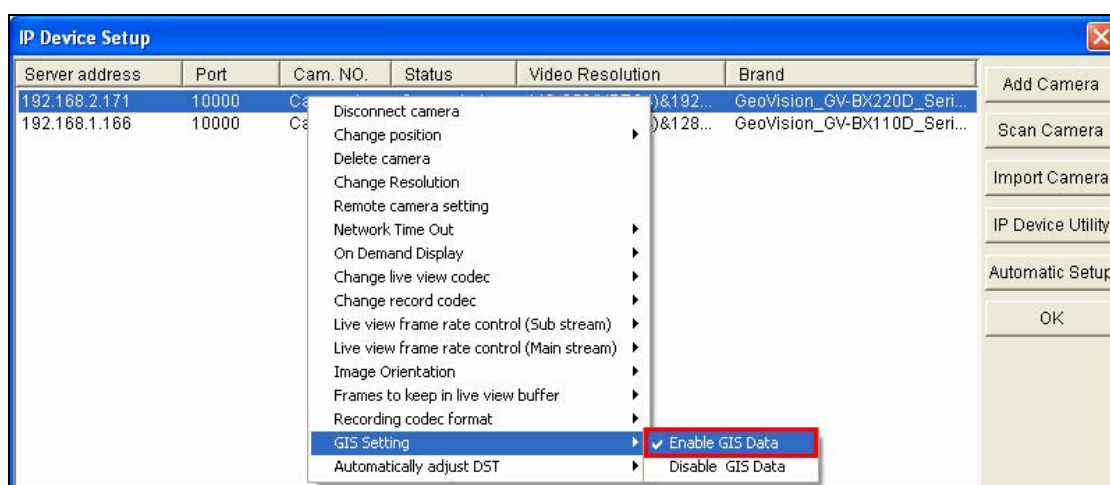

Figure 11-89
- Ensure **Enable GIS Data** is enabled for desired IP devices to receive the GPS data from those IP devices (Figure 11-89).